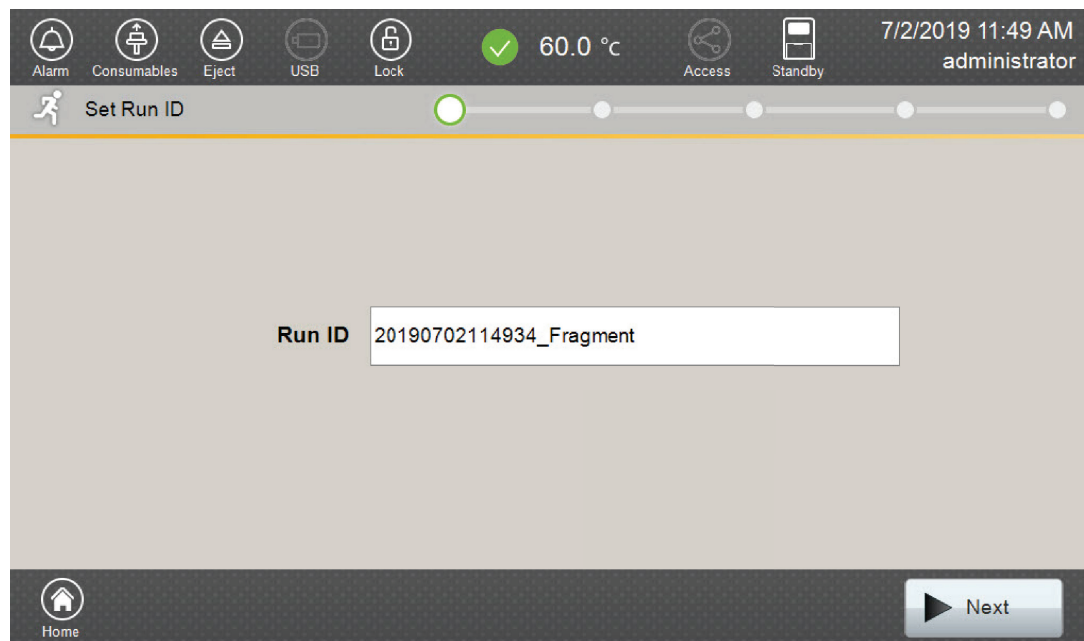

Figure 7. 'Set Run ID' screen.
- Use the default name that includes date, time and 'Fragment' or enter a Run ID on the 'Set ID' screen (Figure 7). Select the Run ID box to open the 'Run ID' window and a keypad will become active on the touch screen. Alternatively, the Run ID can be entered using a traditional keyboard if one is connected to the Spectrum Compact CE System.